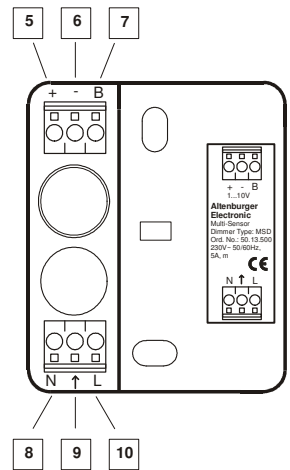

figure3
**Change-over switch (2):** - It can be made a selection between motion detection in the automatic mode (left stop) or constant light control without motion detection (right stop).
**Remote adjustments:** - between terminal (- 6) and terminal B (7) on figure 3 a customary switch can be connected and installed inside the room. If this switch is activated the motion detection is switched OFF. The MSD operates just as constant light control. This can be appropriate if only from time to time a room is occupied by just a few persons.
**Remote adjustments:** Between terminal (- 6) and terminal B (7) on figure 3 a customary pushbutton can be connected. It allows the following operations: